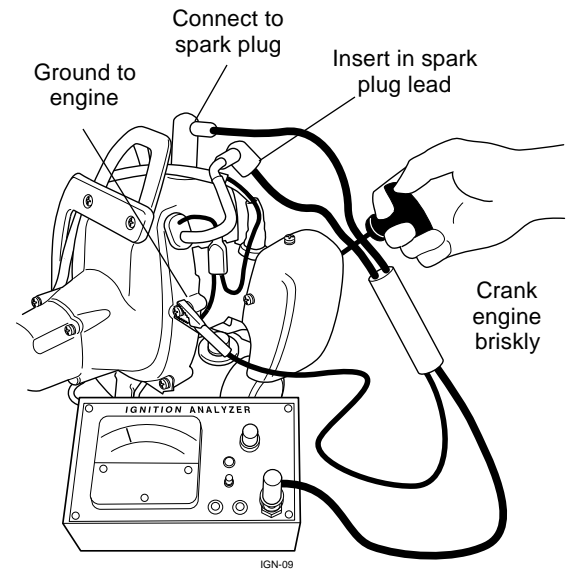

Figure 5.18 Testing voltage required to fire the plug.
STEP 2. Test the spark plug firing voltage between the coil high tension lead and the spark plug terminal. (Figure 5.18).